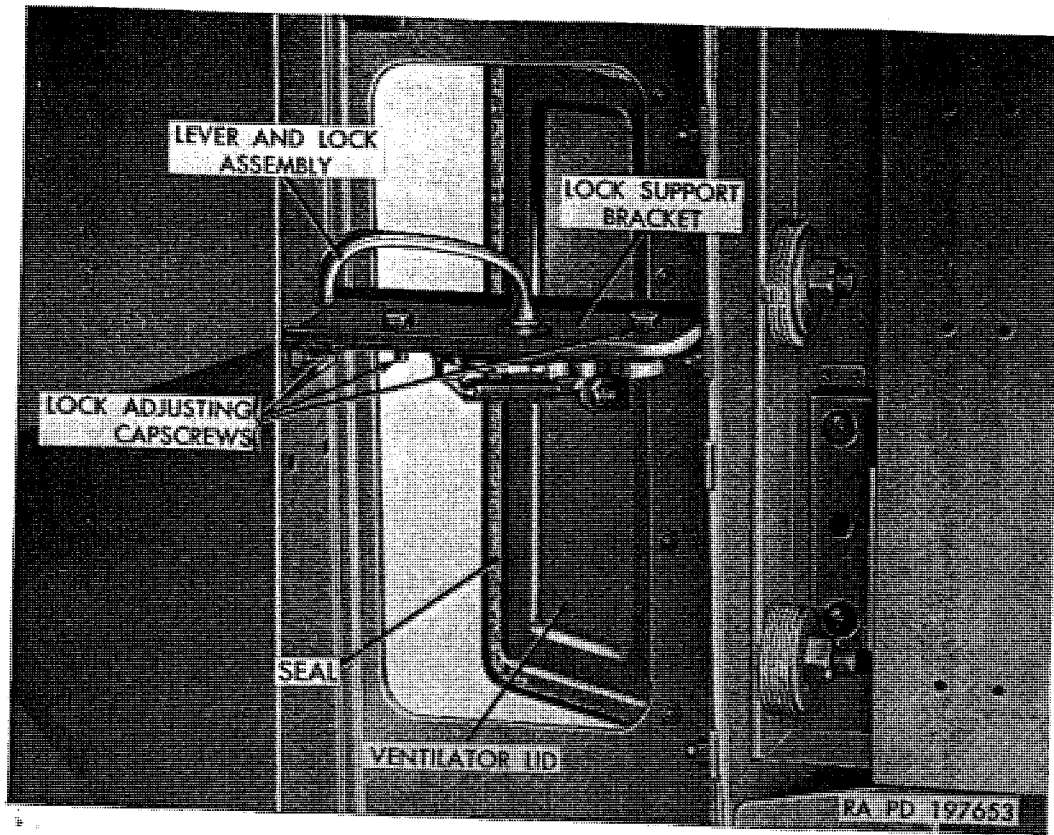

Figure 323. Cowl ventilator.
b. Ventilator Lid-to-Cowl Adjustment (fig. 323). Snugness of ventilator lid-to-cowl can be adjusted by repositioning ventilator lock assembly on lock support bracket which is designed with slotted holes